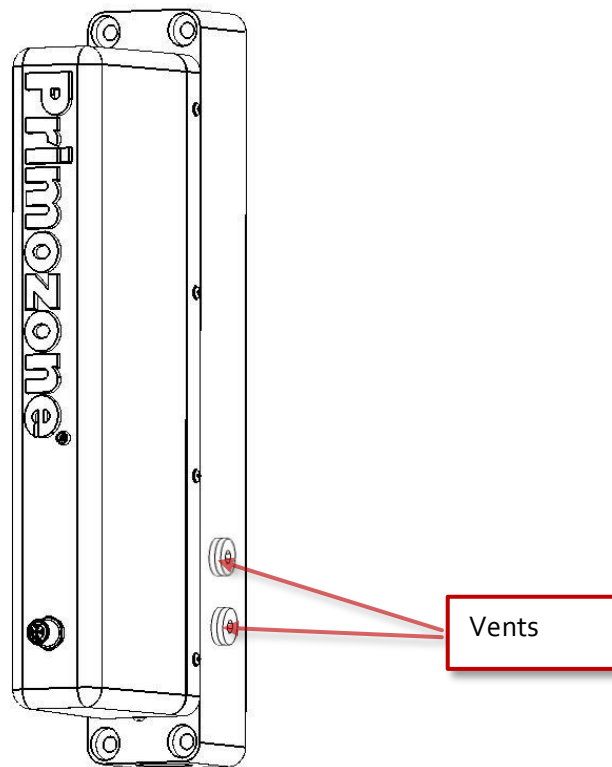

Figure 50 Open vents on the BFP to let water out
3. Open the vents to let the water out, see vents in Figure 50, indicated with red arrows.
4. Replace the o-rings (see Table 4 for spare part number), close the vents and make sure that the vents are sealed. See vents in Figure 50, indicated with red arrows.